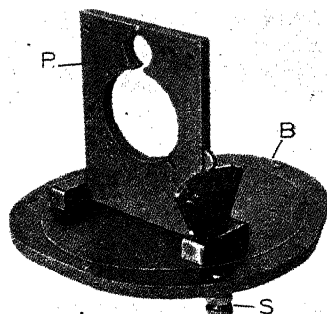

FIG. 44.—Turntable for testing compasses.
**Apparatus Used.**—A turntable for testing compasses is seen in Fig. 44. It has a base *B*, three leveling screws *S*, and a plate *P*, to which a compass may be fixed. The plate may be sloped to the front or back and locked in that position.